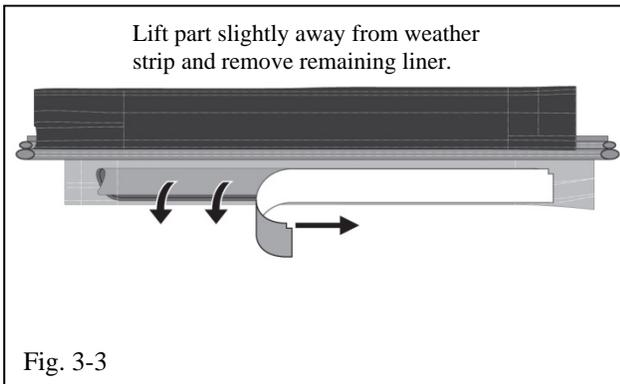

Fig. 3-3
- (f) Carefully remove the entire upper section of paper liner at 180 degrees. You may need to peel the upper portion of the protector back so the door seal does not interfere (Fig. 3-3).